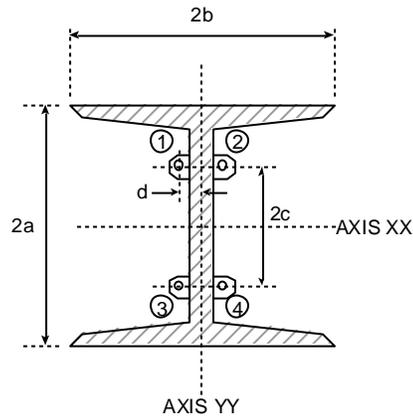

Figure 6A - Strain Gages Mounted on Central Web measures Axial Strain and Bending Moments about both XX and YY Axes
Consider the example of an **I-beam** shown in Figure 6A.
**It is always best to locate gages in pairs, one on either side of the neutral axis of the part of the I beam to which the gage is attached.** This is why the configuration of 6A is preferable. There is the added advantage that gages located on the web, as shown in Figure 6A, are much easier to protect.